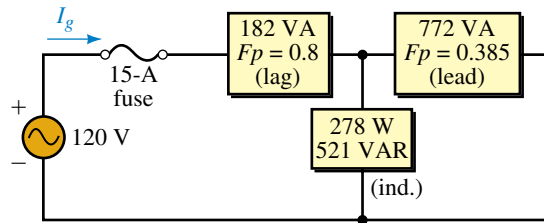

FIGURE 17-46
25. Refer to the circuit of Figure 17-46: